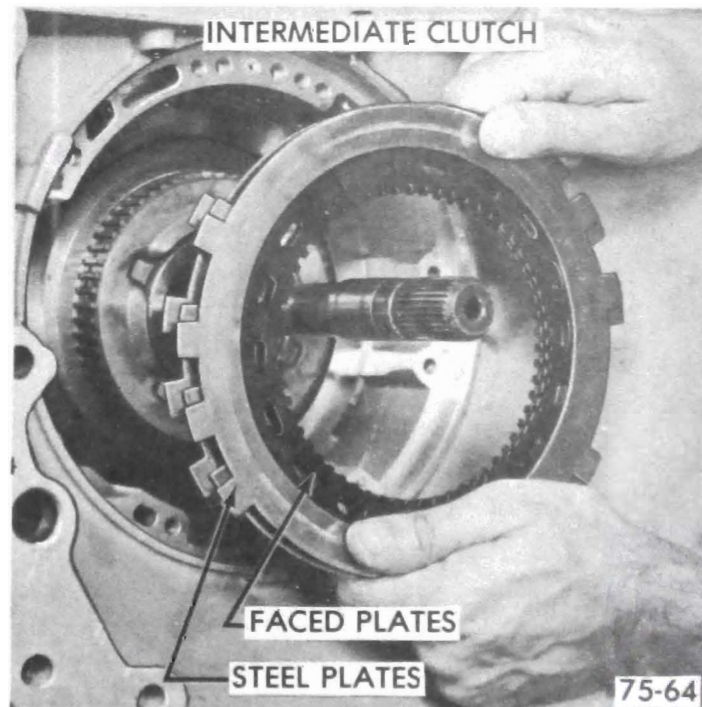

Figure 75-94
2. Remove three (3) intermediate clutch faced plates and three (3) steel separator plates. See Figure 75-94.